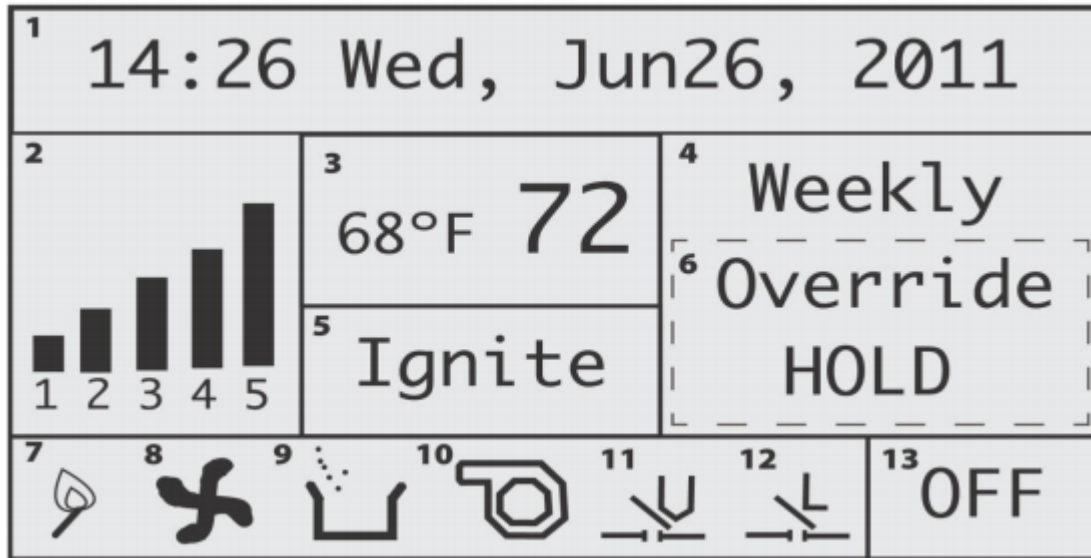

Figure 19: Display Screen
When the stove turns on, the ignition indicator and the combustion blower indicator will appear on the screen (#7 & 8 in Figure 19) "Ignite" will also appear in the work stage box on the screen. After approximately four seconds, the vacuum switch indicator will appear. Also note that the hopper lid open indicator "L" will appear anytime the hopper lid is properly shut and sealed.
9. With a schedule set, make sure that the main display screen on the controller reads "Weekly" (for operating in the Weekly Mode) and that the unit is turned on. The schedule will not take effect unless the unit is turn ON and in the Weekly Mode. **(See #13 in Figure 19)**